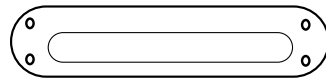

Fig. 8
5. Equipping the winch with a fairlead will reduce wear on the wire rope during angle pulls (see Fig. 8). The rollers reduce rubbing and abrasion to the wire rope.